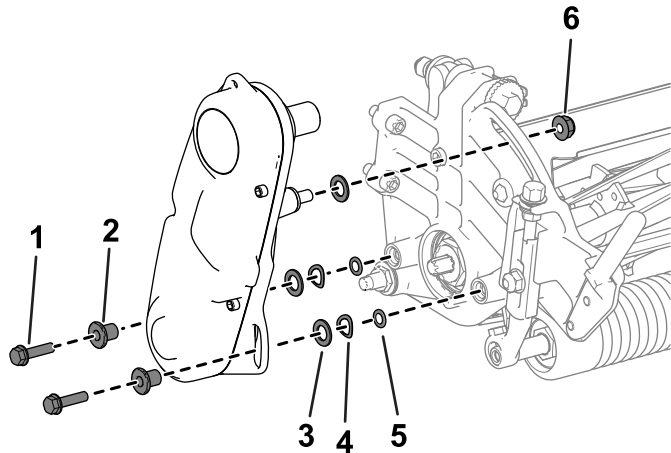

Figure 4
1. Remove the hardware that secures the reel-drive assembly to the side plate (Figure 4).
2. Remove the reel-drive assembly, flat washers, spring washers, spacers, and O-rings from the side plate (Figure 4).